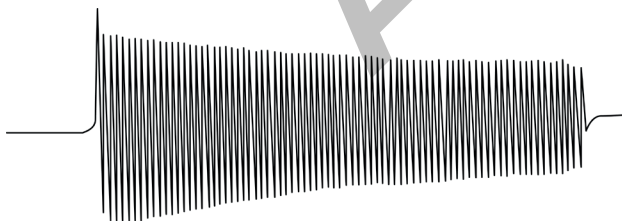

Figure 3: Current decay
**Current decay** - When performing primary injection testing, the test leads, or test sample, will heat up due to the high currents applied. This will result in current decay (Figure 3) unless the operator manually intervenes. This manual intervention can cause inconsistent test results due to the decisions made by the individual operator.